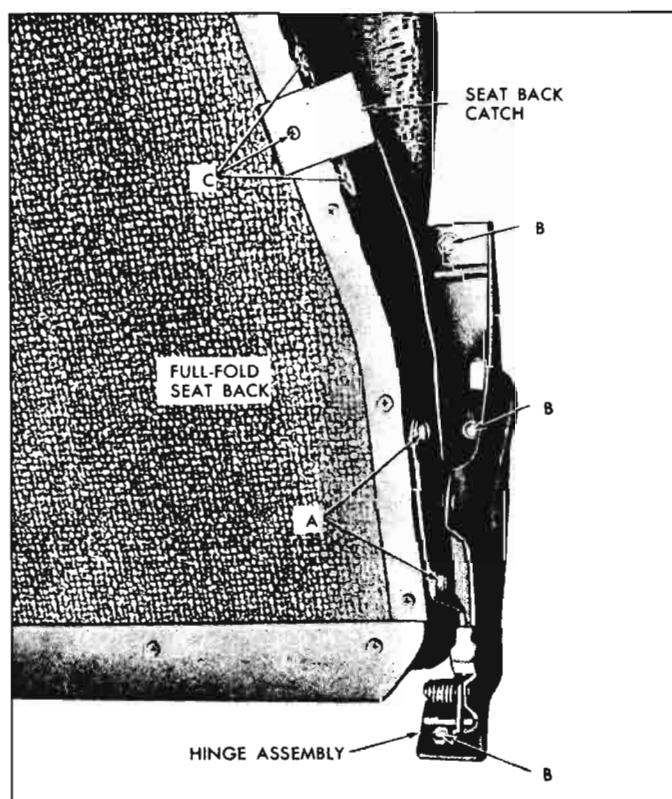

Fig. 10-98—Folding Rear Seat Back Installation
1. At each side of rear seat back, remove two bolts securing hinge assembly to seat back. See "A" in Figure 10-98.
2. Remove bolts securing hinge assembly to floor pan. See "B" in Figure 10-98. Remove seat back hinge assembly from body.
1. Remove screws securing seat back catch to seat back assembly. Remove right and left seat back catches as shown in Figure 10-98.